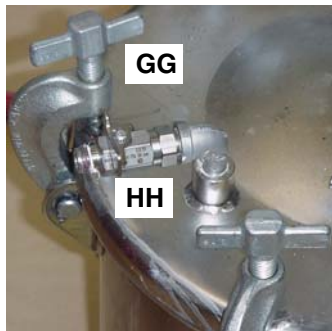

FIG. 17
5. Immediately close the tank by tightening the T-handles (GG) evenly, FIG. 17.